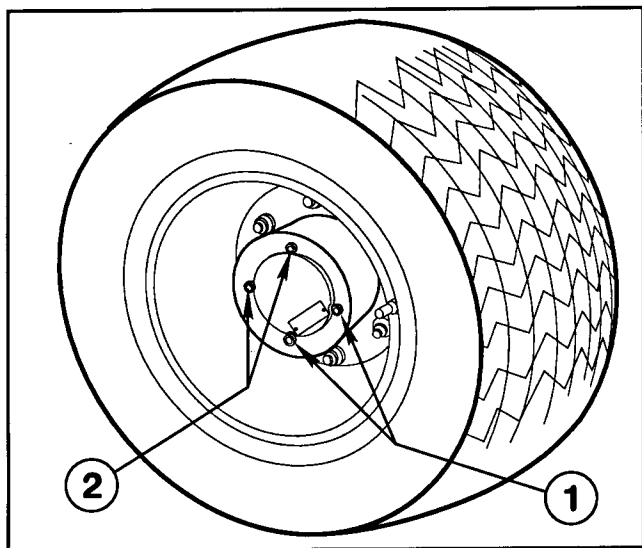

Figure 38
## CHANGING PLANETARY GEAR DRIVE OIL (Fig. 38,39)
1. With machine on level surface, position wheel so the check/drain plugs are at the 3 and 6 o'clock positions. (Fig. 38 position 1.)
4. When Gear Drive is completely drained, reinstall plug on bottom of hub and position wheel so holes are at 9 and 12 o'clock position. (Fig. 38 position 2.)